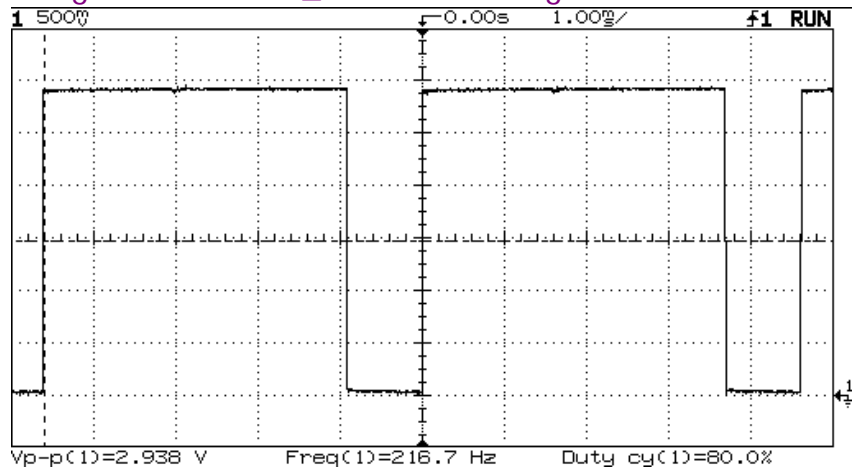

Fig. 4.4 3V\_G\_TX Pg. 1-4I TP100
2. **PCN\_TX** ( Control signal from Superchip which switches 2.85V through to 3V\_P\_TX.). See figure 4.4.